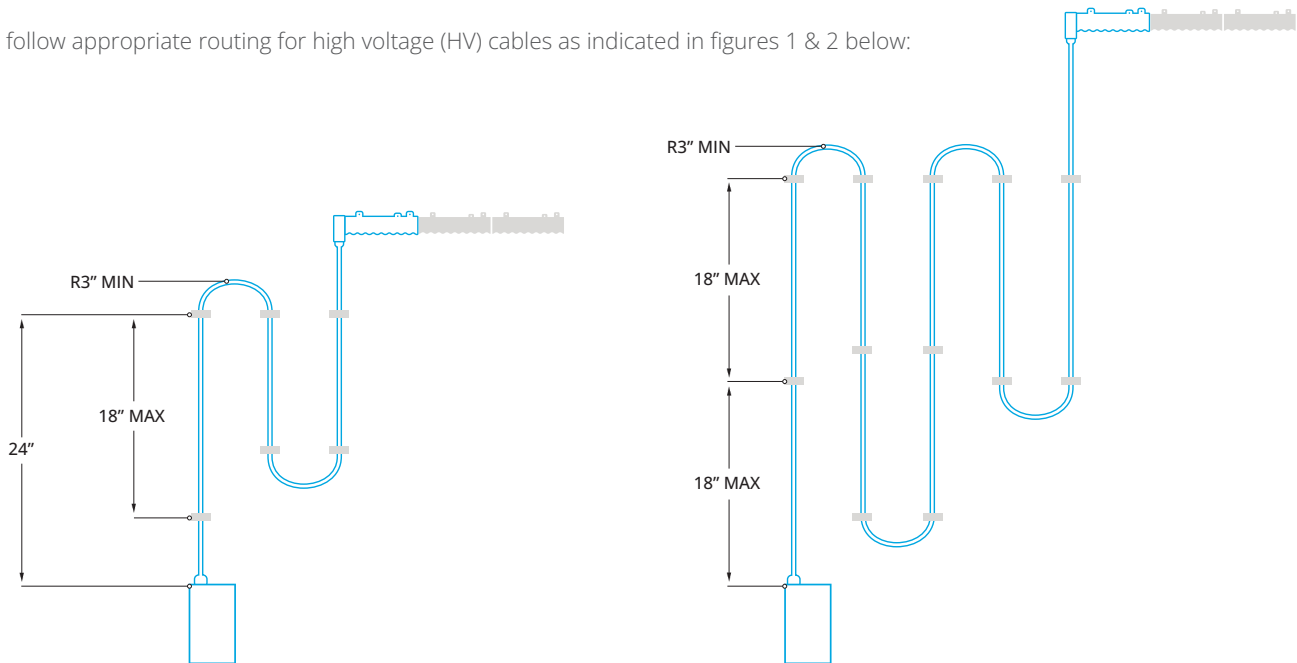

Figure 1. 6' HV Cable 6 Supports
Please follow appropriate routing for high voltage (HV) cables as indicated in figures 1 & 2 below: